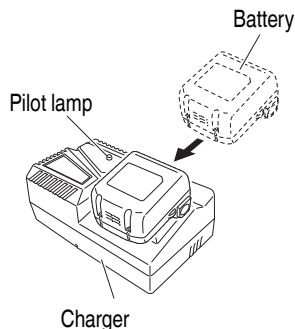

Fig. 4
2. Insert the battery to the battery charger. Insert the battery into the battery charger as shown in Fig. 4